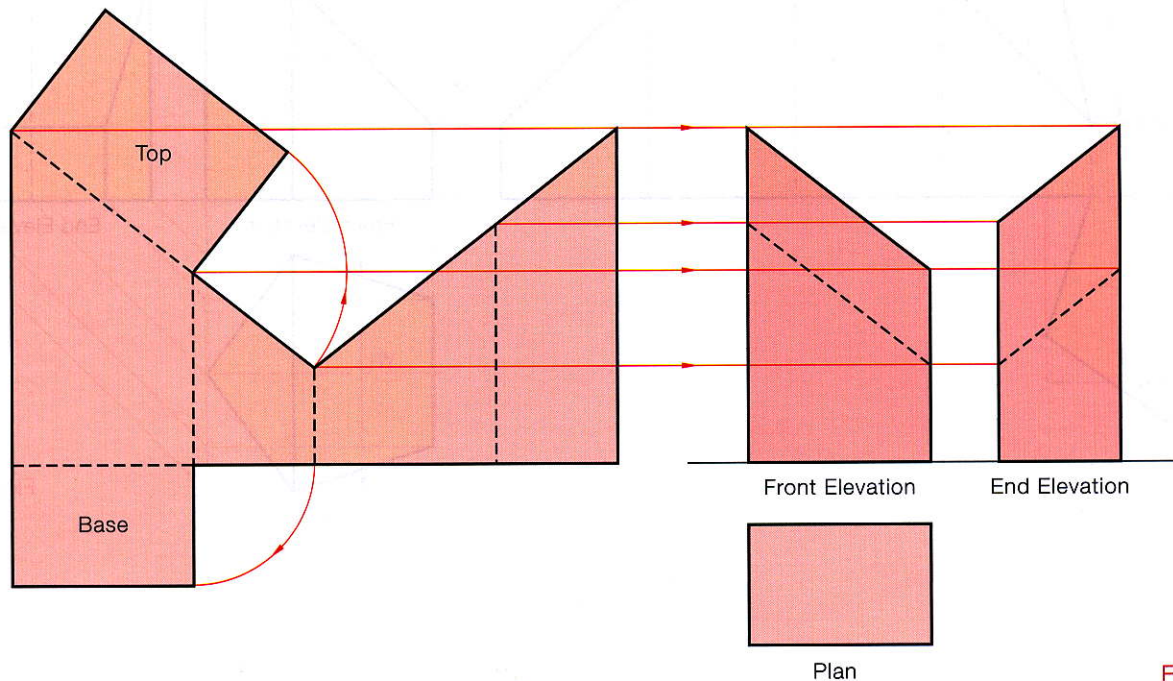

Fig. 11.36b
- (1) The base must be rectangular as alternate sides are equal in length. The solid must also be a prism as the development is made up of parallel height lines.
- (2) Decide which face of the development will form the front of the object. Draw the front elevation in line with the development.
- (3) Project the plan which will equal the base in size.
- (4) Draw the end elevation and complete the development, Fig. 11.36b.